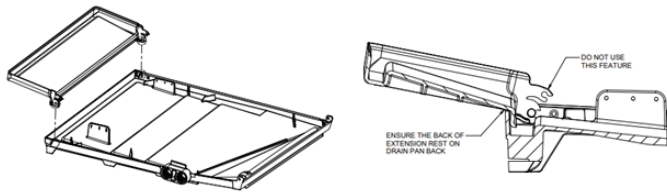

Figure 5A
1. A drain pan extension is shipped with coil in the accessory kit box (Figure 5A). This extension is to be used only for horizontal left application used only for higher than normal humid application. **During horizontal right application, this drain pan extension is not required** (There are accessories recommended for horizontal right application, see page 4). This extension will have to be locked in position for proper application.
NOTE: To INSTALL DRAIN PAN EXTENSION, BUILT IN DUCT FLANGES ON THE UNIT CASING MUST BE BENDED IN-WARD OR OUTWARD AS NEEDED. REMOVE THE DRAIN PAN EXTENSION FROM ACCESSORY BOX AND FROM PLASTIC BAG. FOLLOW FIGURES 5A THROUGH 5C BELOW TO INSTALL DRAIN PAN EXTENSION DEPENDING ON THE INSTALLATION BEING PERFORMED.